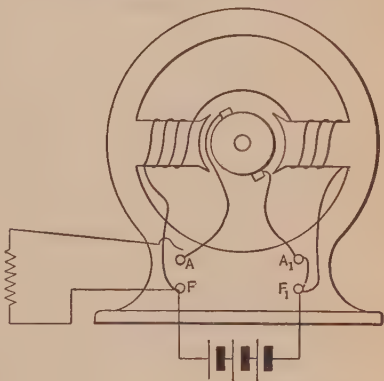

FIG. 169. Test for low residual magnetism.
**(6) Test for Low Residual Magnetism.** Connect up the machine as at the start, but leaving open one field connection (A) to the armature, Fig. 169. Connect in a few dry cells so as to send a current through the field while this connection (A) to the armature is open. Start the machine and, if the voltage begins to pick up when the remaining field connection is made, pull the dry cells out. If not, try connecting the cells to send the current in the reverse direction through the fields.